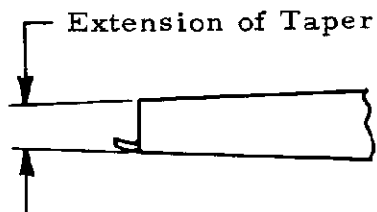

Figure 2
- A. Front cutoff tab shall not exceed .020 and shall lie within the cone-shaped extension of the taper as indicated in Figure 2.